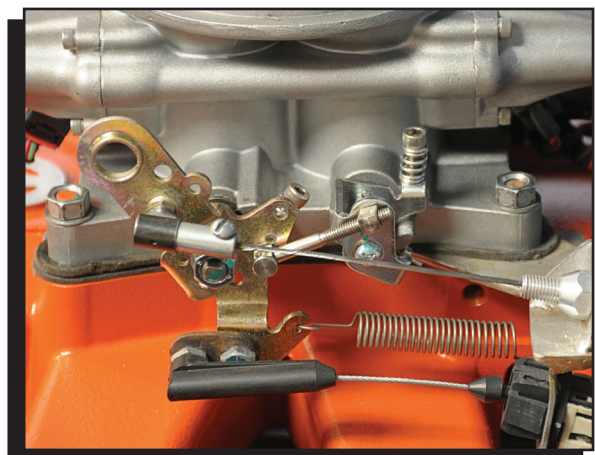

Figure 5 Throttle Linkage.
3. Transfer the linkage hardware from the carburetor to the Atomic. Any transmission brackets should also be transferred to the Atomic. A throttle return spring must be used (Figure 5).